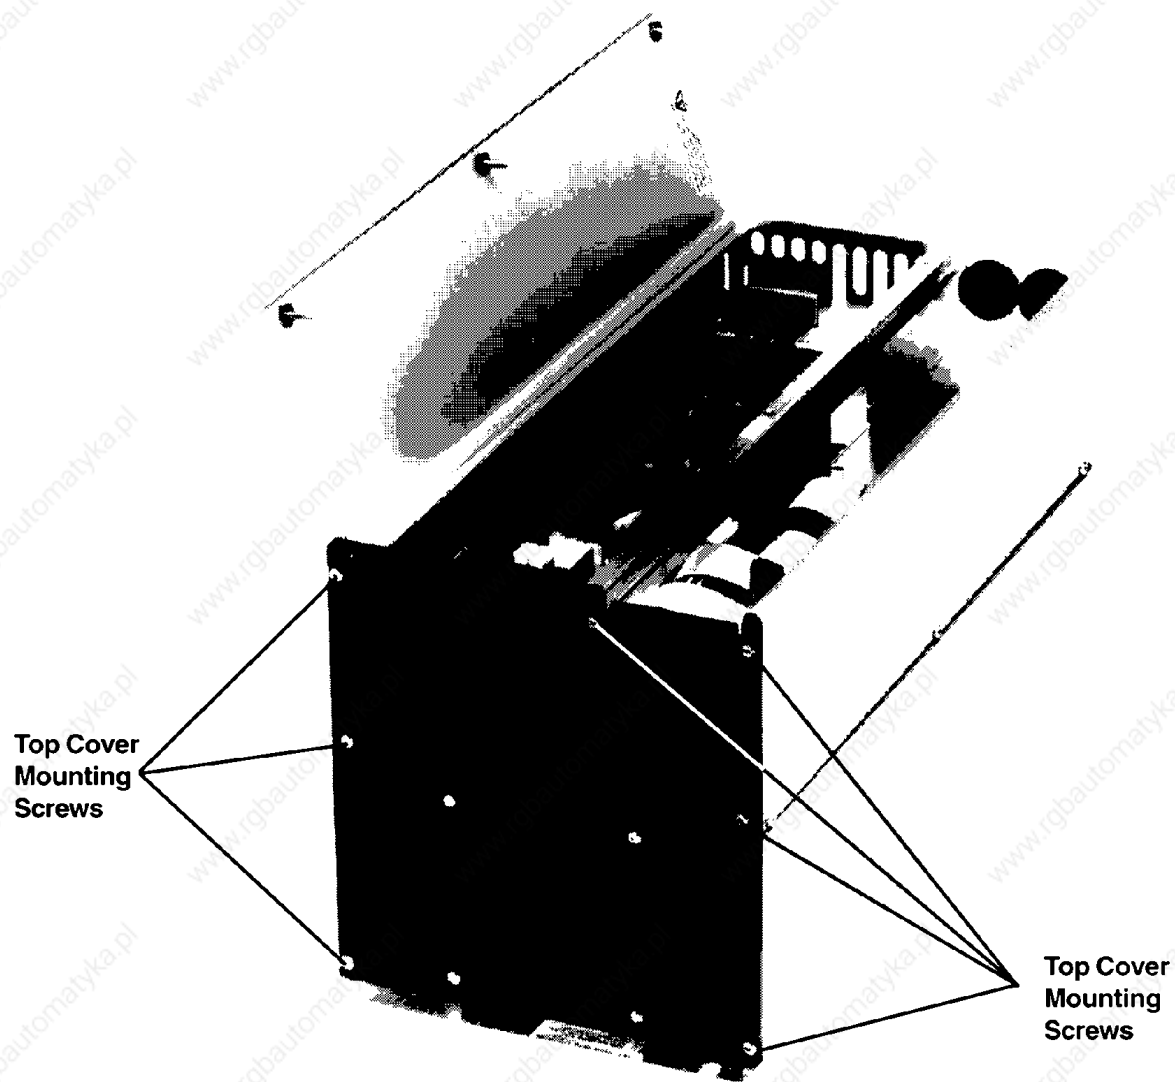

Figure 7: Top Cover Disassembly
2. Remove seven (7) top cover mounting screws (see Figure 7).